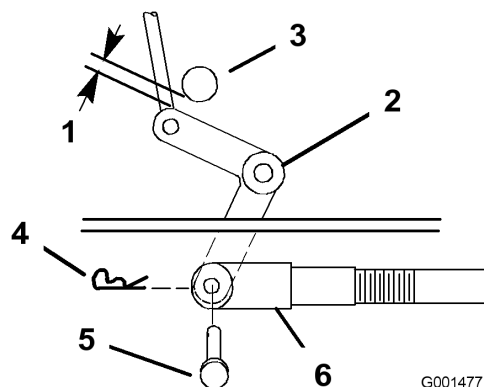
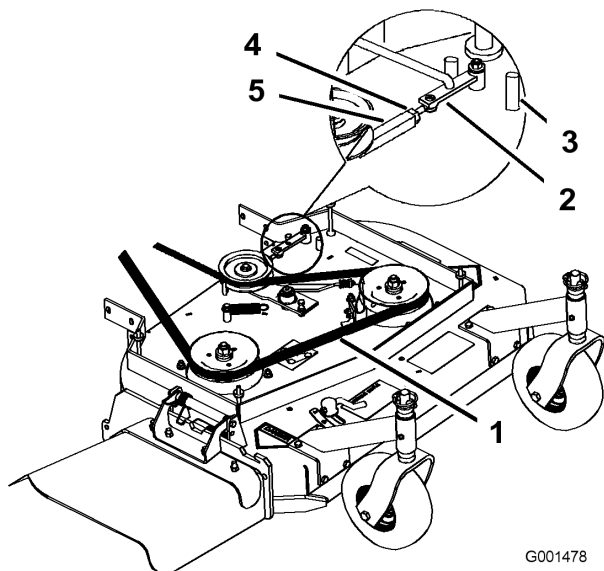

Figure 33
Figure 34
- Check the clearance between the bell crank and the transmission output shaft (Figure 33).
- Rotate the clevis clockwise on the rod to increase the clearance; rotate it counterclockwise to decrease it (Figure 33).
Note: If the assist arm does not contact the front stop on the mower deck (Figure 34), adjust the clevis to bring the bell crank closer to the transmission output shaft (Figure 33).
3. Loosen the locknut on the turnbuckle (Figure 34).
4. Rotate the turnbuckle toward the rear of the mower to increase the tension on the belt. Rotate the turnbuckle toward the front of the mower to decrease the tension on the belt (Figure 34).